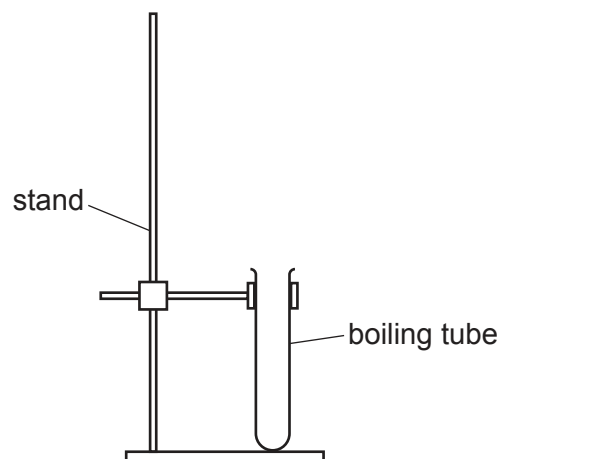

Fig. 1.1
- 2 The boiling tube is to be set up for candidates as shown in Fig. 1.1.
Restore the apparatus to the set-up shown in Fig. 1.1.